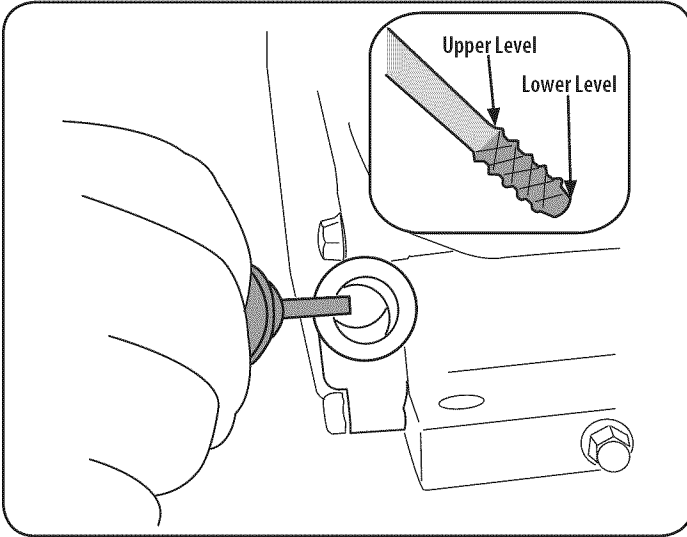

Figure 7
2. Remove the oil filler cap/dipstick and wipe the dipstick clean. See Figure 7.
4. Remove the oil filler cap/dipstick. If the level is low, slowly add oil until oil level registers between the upper level and lower level. See Figure 7.